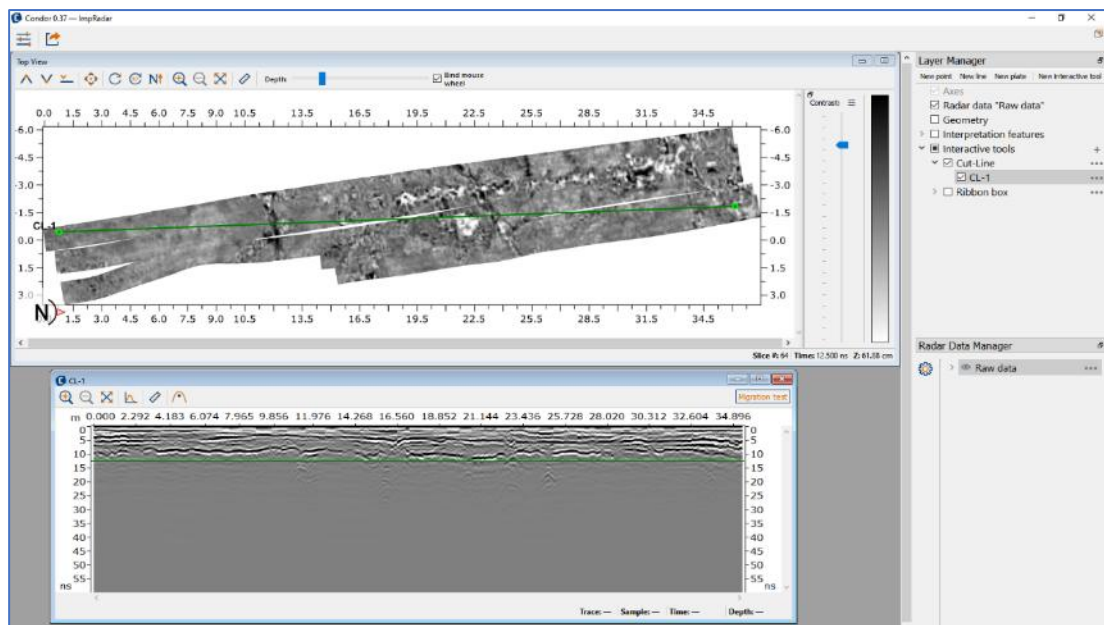

*Figure 9* By checking the *OspreyView* in top right corner, *Condor* enters *thick-slice mode*. This mode gives a better overview, as well as *depth perception*.
- 1) **Top View:** shows a time slice of the data as a map in X-Y coordinates. You can change the depth of the current slice and change the representation parameters using the toolbar. By enabling **OspreyView**, a user may get better overview of available targets, not only at the depth of the current slice, see Figure 9, below.